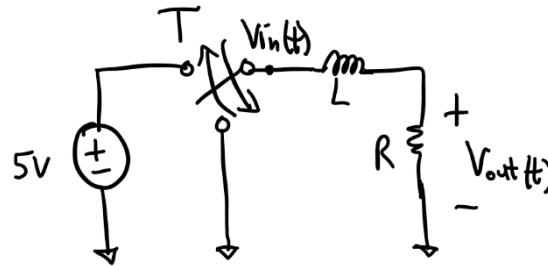

Figure 4. Circuit for Problem 4.
4. Consider the circuit shown below in Figure 4, constructed with an ideal voltage source of 5 V, an ideal switch, an inductor $L = 200 \text{ nH}$, and a resistor R .